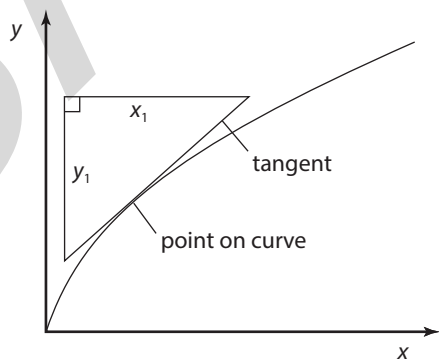

Figure 3.2
- Draw a tangent to your curve as close to the origin as possible, perhaps at around 10, 20 or 15 s. Your tangent must be at least half as long as the line of the graph, so make it as long as possible (see Figure 3.2).